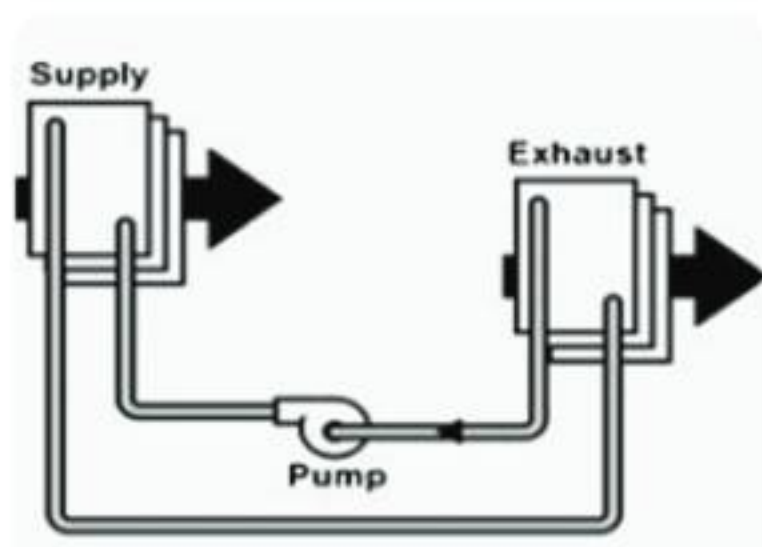

Fig. 26 Runaround loop coil system
- The run around coil (Fig. 26) is the most suitable system where supply and exhaust flow rates are completely segregated. It comprises two heat exchangers hydraulically connected and circulating by means of pumps. The heat transfer fluid is usually a mix of water and glycol